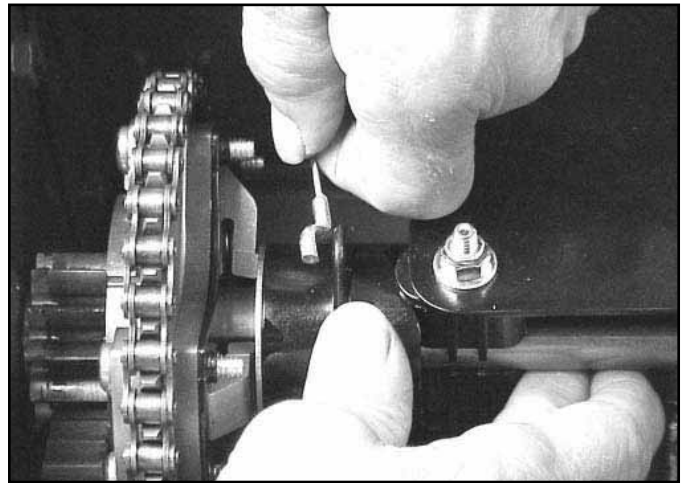

Fig 053
5. Disconnect the lower end of the cable from the shift collar (Fig. 053).